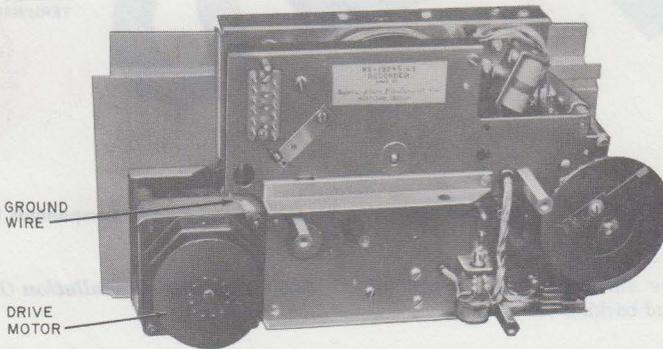

Fig. 6—KS-19245, List 3 Recorder (Motor Side)
3.02 KS-19245, List 3 Recorder (Fig. 6):